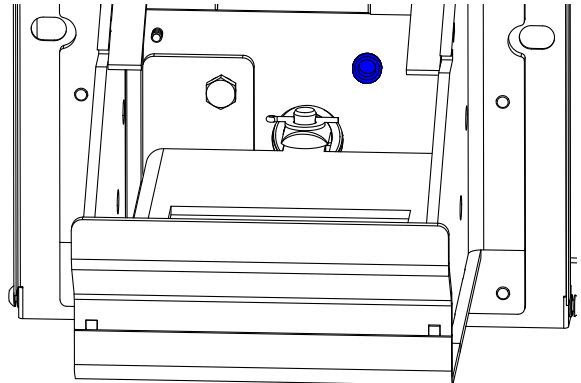

Fig. 23 The rubber bushing used to route the wires of the heating element.
6. Change the heating element and assemble the chamber in the reverse order. To route the wires of heating element, pull them through the rubber bushing on the rear wall of the chamber (Fig. 23).